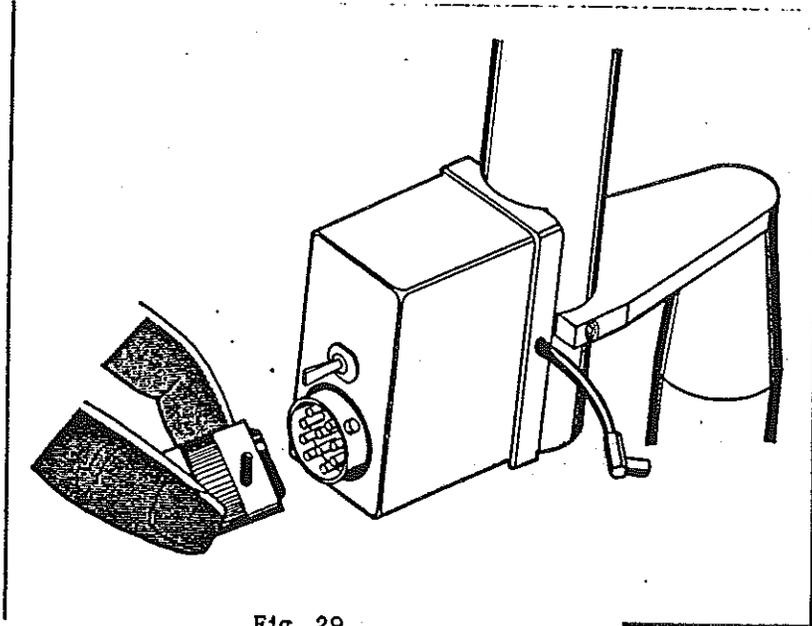

Fig. 29
- (a) Connect the socket end of the Flash Power Lead (Fig. 29) to the multiway connector on the rear of the Flash Head, and the other (pin) end to the Power Pack. Ensure that the knurled rings are fully clockwise, but do not apply undue force.